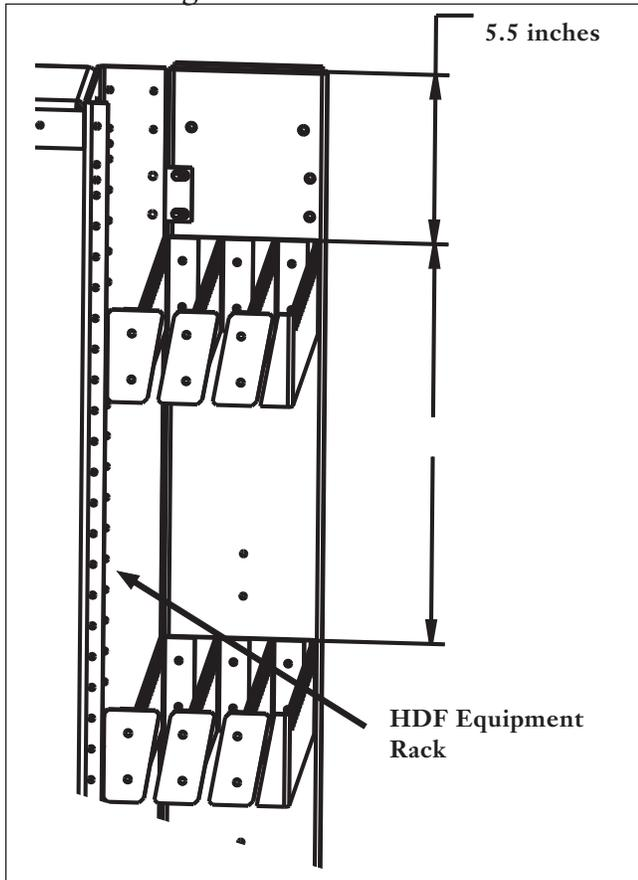
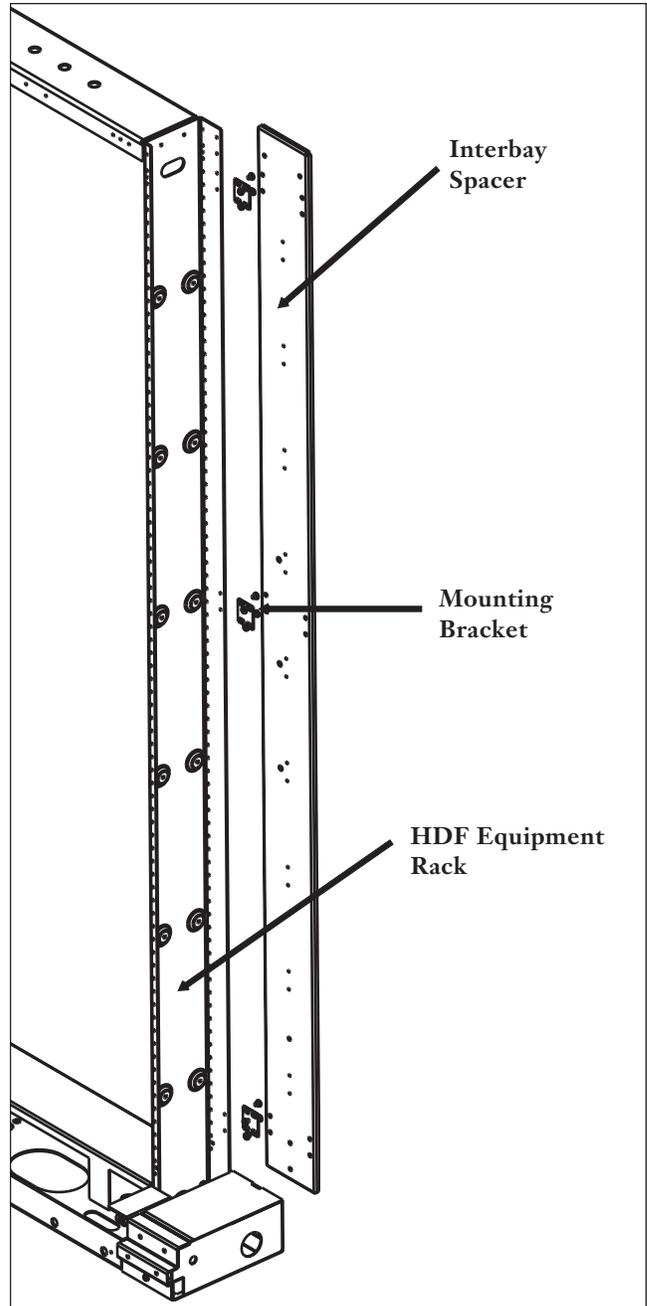

Figure 6
Figure 7
5.1 Jumper guides are installed on the utility rack. See Figure 6 for suggested locations. A backplate is mounted behind the jumper guides to facilitate tandem assembly (Figure 7).